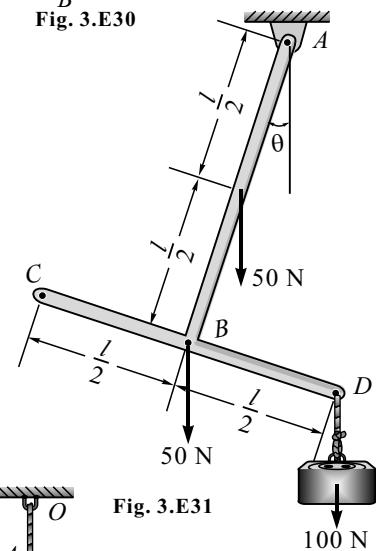

Fig. 3.E31
32. Two bars AB and BC of length 1 m and 2 m and weights 100 N and 200 N respectively, are rigidly joined at B and suspended by a string AO as shown in Fig. 3.E32. Find the inclination θ of the bar BC to the horizontal when the system is in equilibrium.